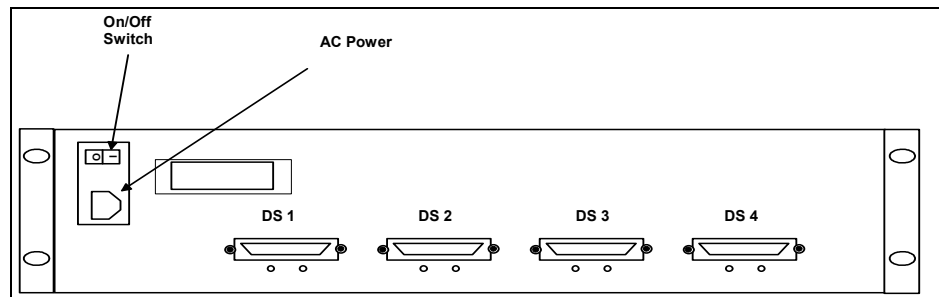

FIGURE 2-2
4. Connect the LVDS cable coming from the Wireless Server(s) to appropriate LVDS connectors (marked DS1 through DS4) on the rear of the TIM Transceiver (shown in FIGURE 2-2).